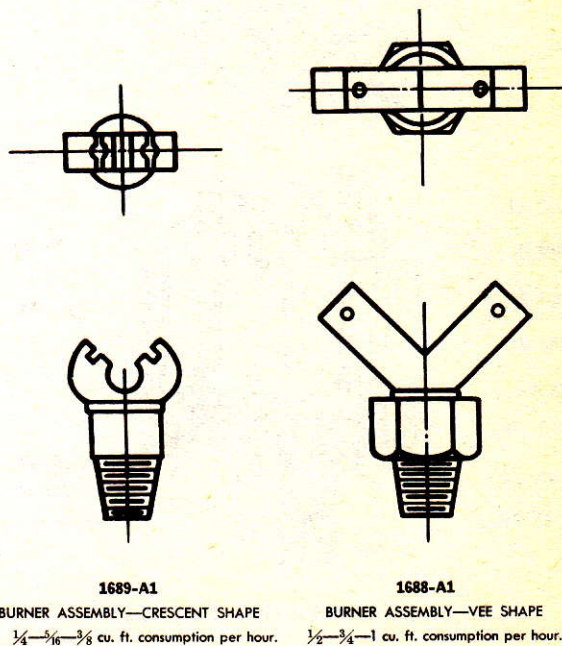

FIGURE 20-43.—Burner assemblies.
A. There are two standard types of burners, the *crescent* and the *vee*, used in acetylene flashers which are rated in cubic feet per hour of gas consumption. The burners are molded from steatite and mounted in brass taper-threaded sockets which screw into burner holders. The *crescent* or "low type," used on the 50-mm. flasher, takes its name from its shape. (See fig. 20-43.) Twin jets of gas are discharged through holes in each arm, so directed as to form a fish-tail flame when ignited. The size of the flame is proportionate to the capacity of the burner. The *vee* or "high" type burner which also takes its name from its shape,
is used in the 130 and 240 mm. flashers. The flame is produced in the same manner as in the small crescent burner. (See fig. 20-43.) The lava tips of these burners are threaded into the socket and cemented. They are very brittle and should be handled carefully.